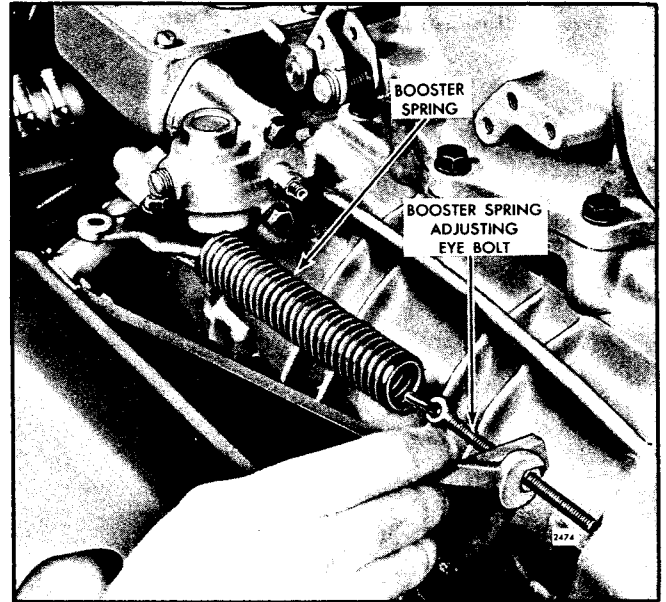

Fig. 7 - Adjusting Booster Spring
2. Refer to Fig. 7 and loosen the booster spring retaining nut on the speed control lever. Loosen the lock nuts on the eye bolt at the opposite end of the booster spring.